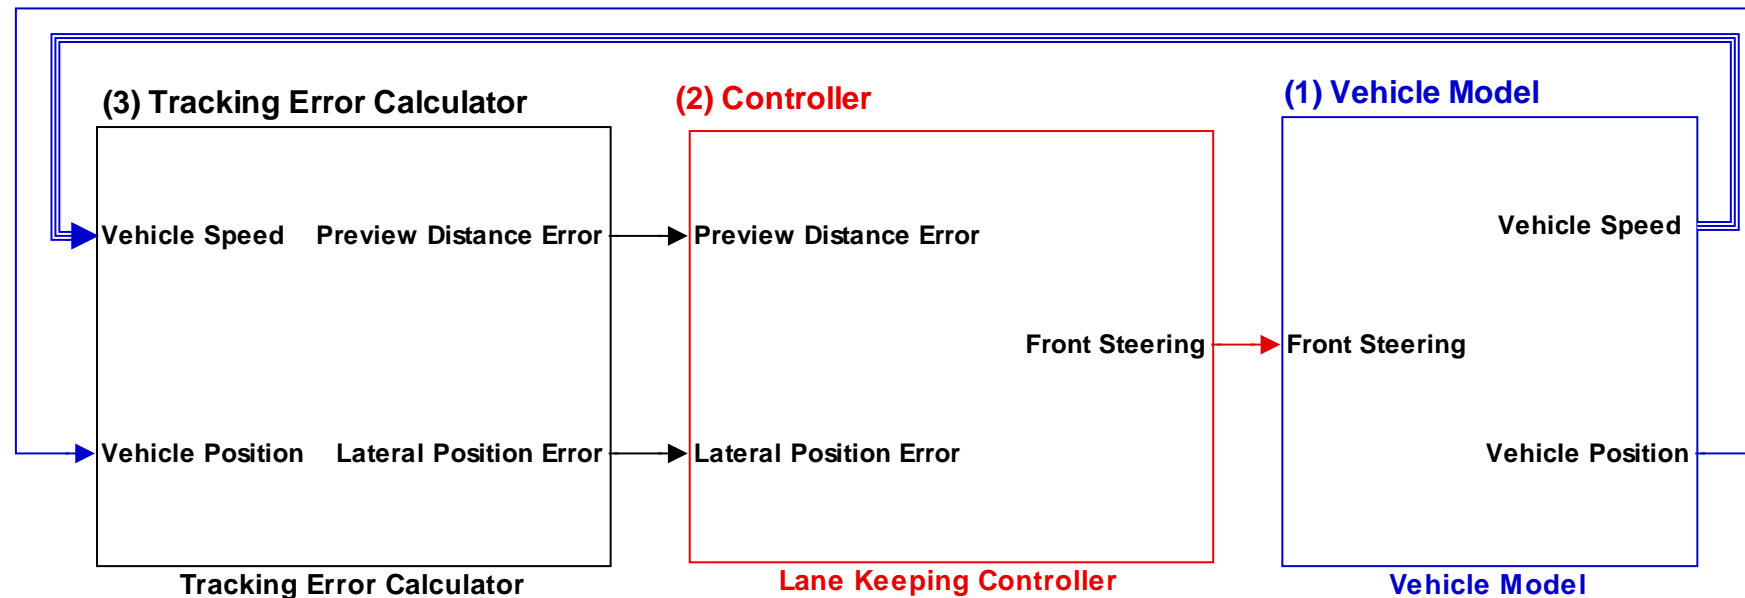

Fig.2 Lane Keeping Model
- A lane keeping system for numerical simulation consists of three parts: a vehicle model, a lane keeping controller and a tracking error calculator as shown in Fig.2